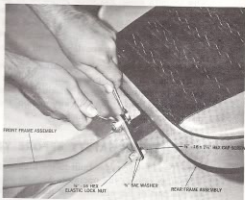

Figure 2
5. Attach the rear wheels to the hubs with the (5)  $\frac{1}{2}$  - 20 lug type nuts. When placing the wheel on the hub be sure to get the valve stem to the outside.
6. Attach front frame assembly to rear frame assembly with (3)  $\frac{3}{8}$  - 16 x  $1\frac{1}{4}$  hex head cap screws, (6)  $\frac{3}{8}$  SAE washers, and (3)  $\frac{3}{8}$  - 16 hex elastic lock nuts. Tighten nuts securely. (See Fig. 2)